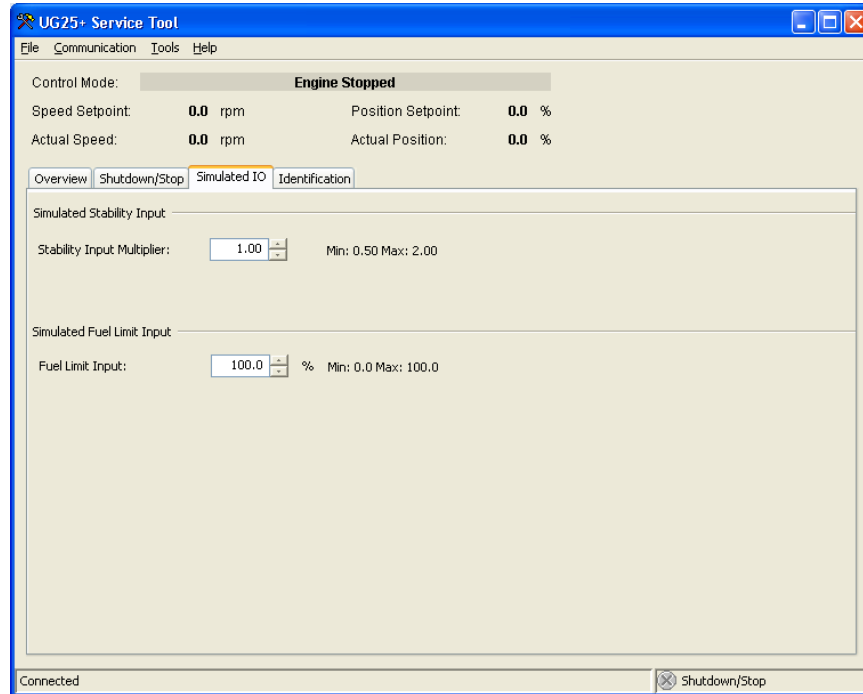

Figure 5-5. Service Tool – Simulated I/O Tab
- Simulated I/O (see Figure 5-5)
While communicating to the service tool, Stability and Load Limit inputs (Aux 3 and Aux 4) are not functional since these input pins are used for both Input and for serial communications. The Simulated I/O screen (Figure 5-5) is provided to facilitate operational testing while connected to the Service Tool.